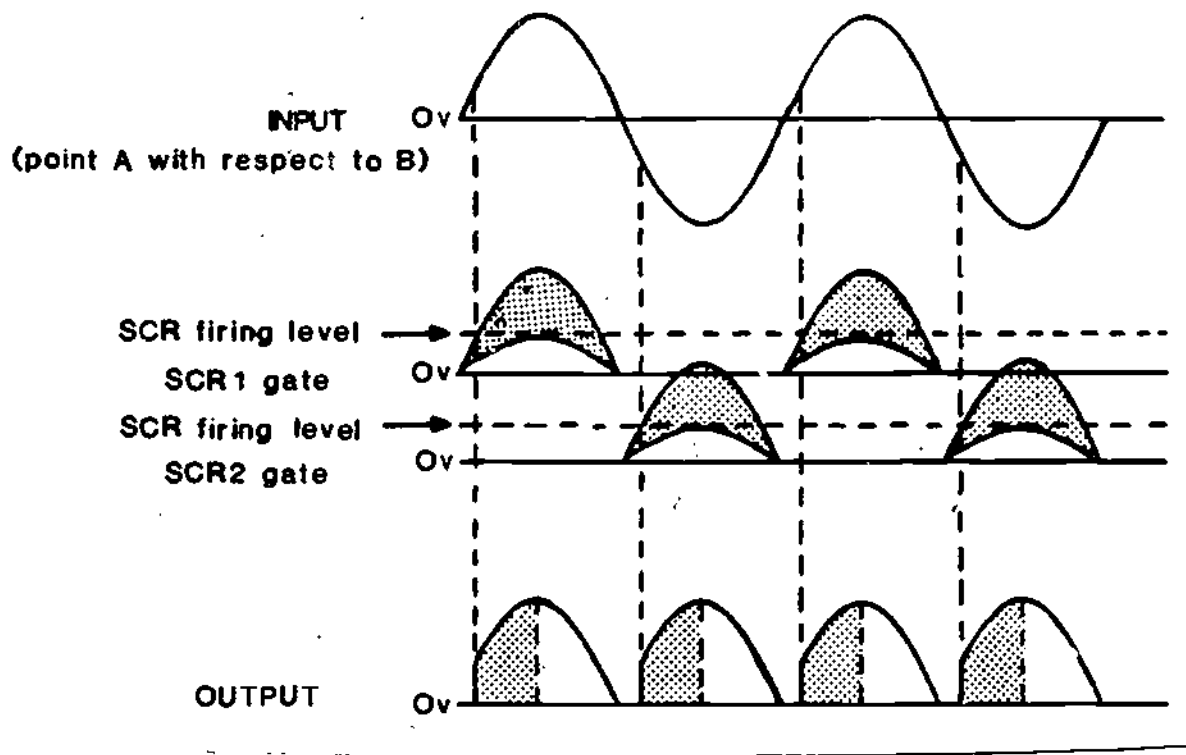

Figure 21
- (27.) The input output waveforms for the SCR bridge type power supply previously discussed are shown in Figure 21. Study the output waveform and notice the wide range of outputs which are possible due to the variation of signals by changing the setting of R2 and R3. (Variations shown shaded)